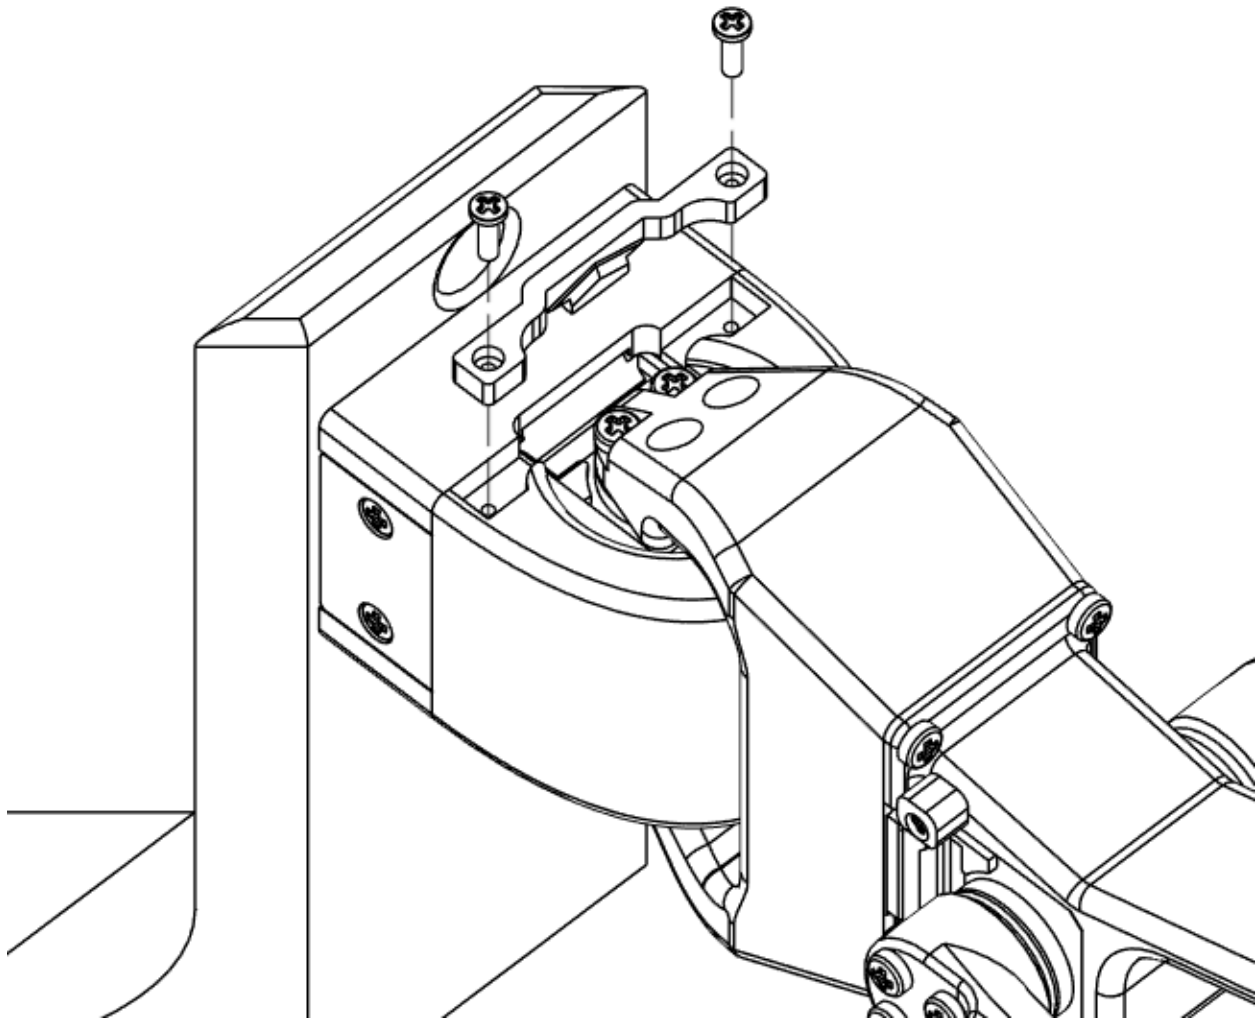

Figure 3.21 - Teleop Motor 1 Wire Clip Assembly
29. Fasten Teleop Motor 1 Wire Clip to Teleop Motor 1 Support as shown in Figure 3.21
- a. (2) M2x8mm
- b. **NOTE:** Arm Motor Wires not shown in Figure 3.21